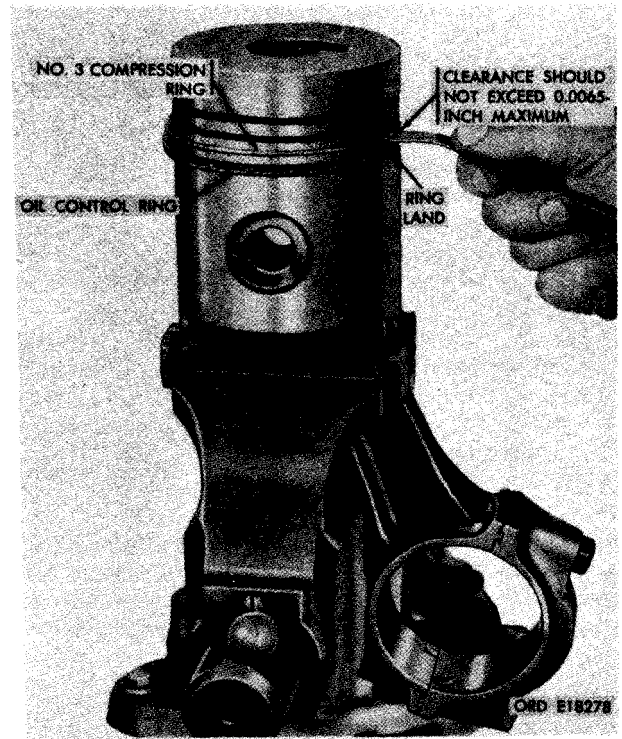

FIGURE 348. CHECKING NO. 3 COMPRESSION RING CLEARANCE USING A FEELER GAGE.
Note. The third compression ring and oil control ring side clearance must also be checked after rings are installed on piston as shown in figure 348.
- (4) Check No. 3 compression ring clearance between ring and ring land on piston using a feeler gage as shown in figure 348. Clearance should not exceed 0.0065-inch. When excessive clearance exists, piston ring lands are worn and piston should be replaced.